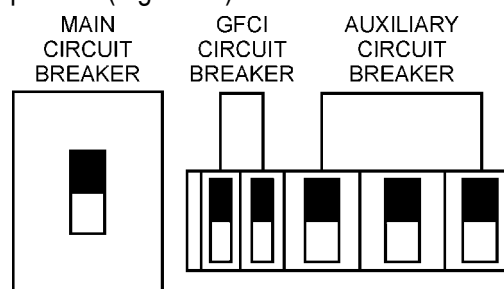

Figure 52. Main, Aux. and GFCI
12. Place the **main**, **GFCI**, and **aux.** circuit breakers in the **ON** position (Figure 52).